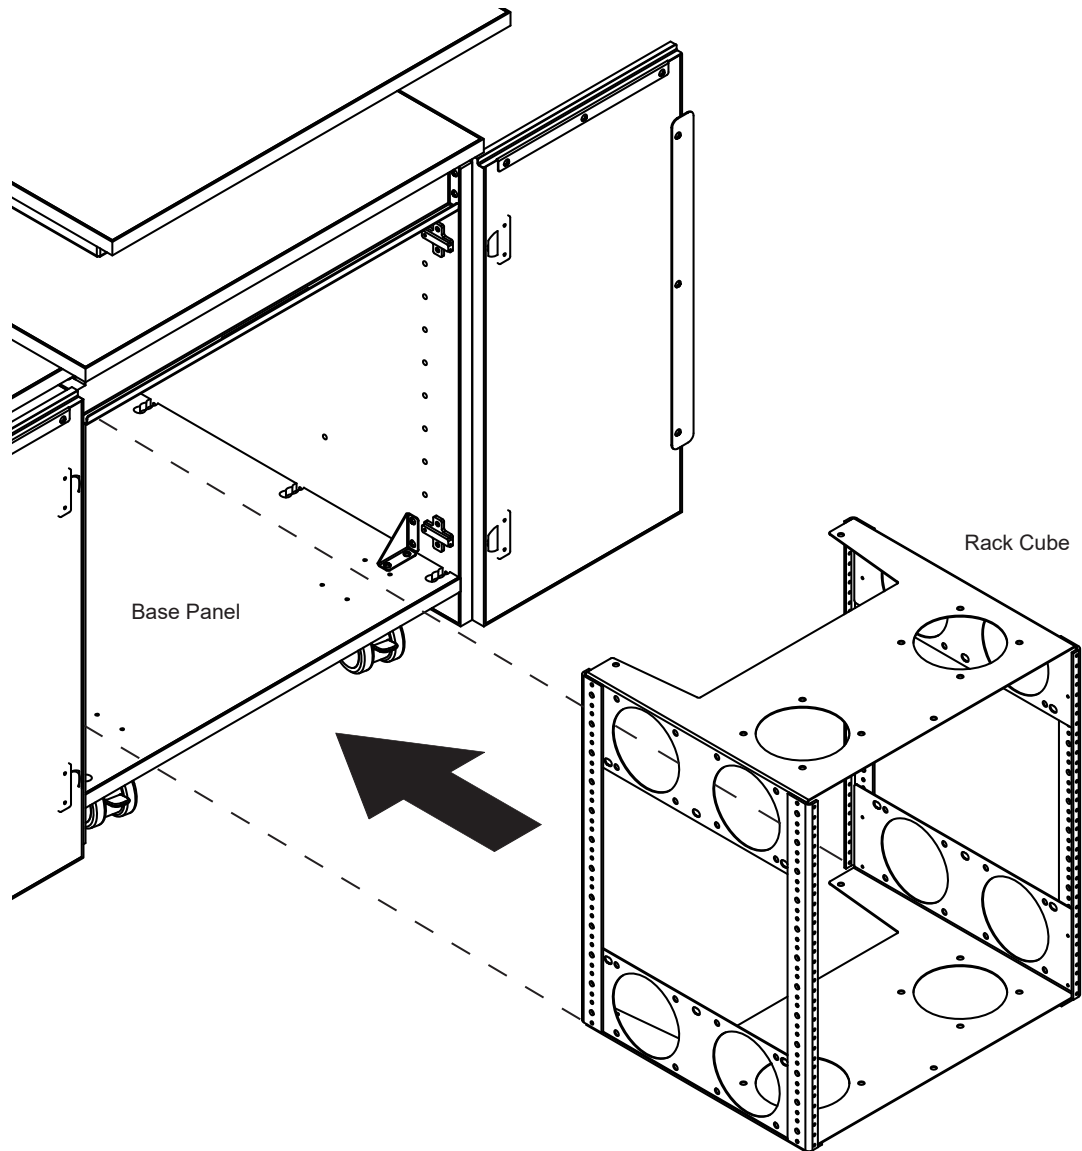

Figure 3
1. Open doors to provide access. **Figure 3.**